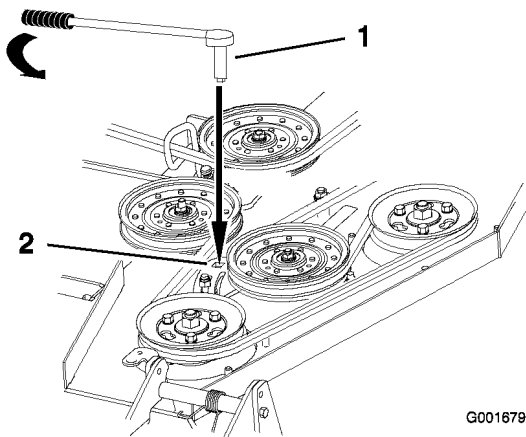

Figure 49
7. Insert a ratchet with a short extension or a breaker bar into the square hole in the fixed idler arm (Figure 49).